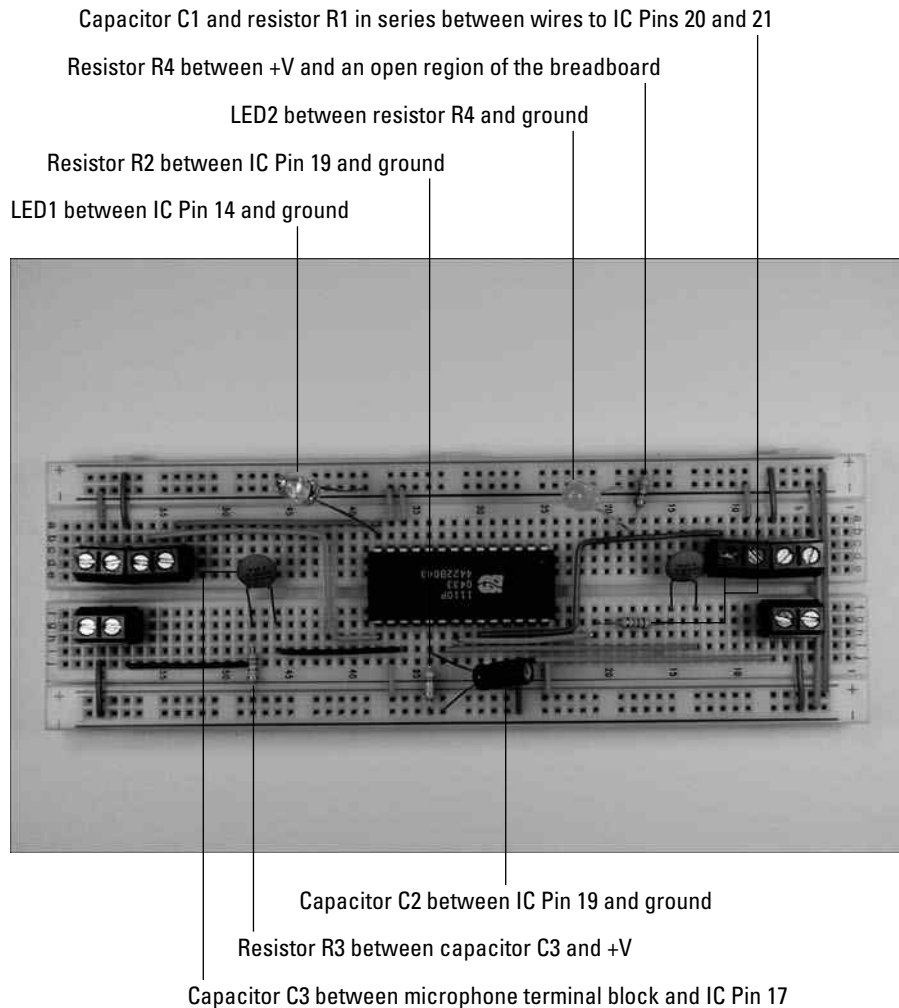

Figure 9-22:
5. **Insert discrete components on the breadboard, as shown in Figure 9-22.**